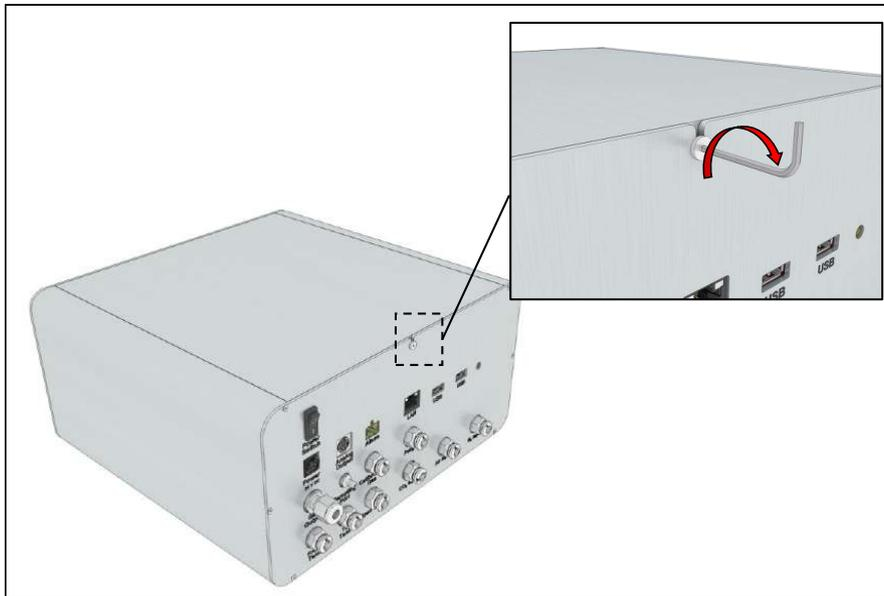

Figure 110. Loosen the screw by using a hexagonal key.
1. Loosen the screw by using a hexagonal key (2.5mm), as shown in Figure 110.